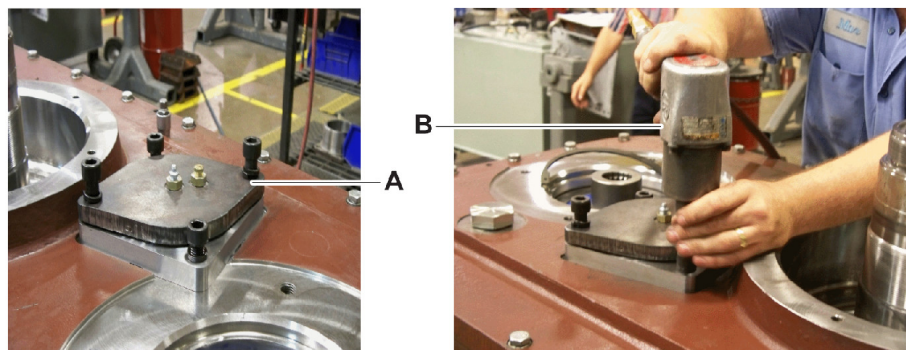

Figure 16
26. Install bolts and washers in the two opposite corners of the bearing holders (Figure 16, item A) and the bearing adjusters.